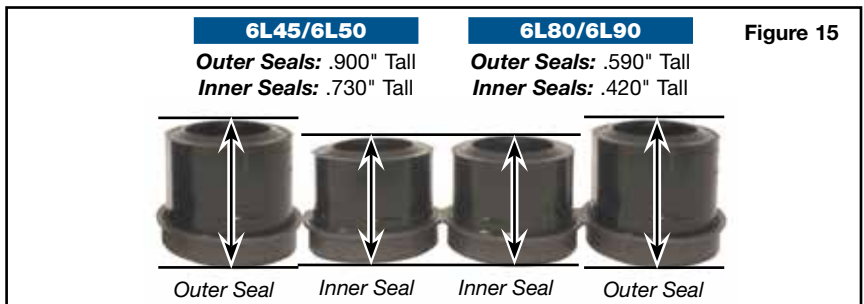

Figure 15
**NOTE:** 6L45 and 6L50 center support seals are approximately .900" tall (outer) and .730" tall (inner). 6L80 and 6L90 unit seals are shorter, approximately .590" tall (outer) and .420" tall (inner) (Figure 15).